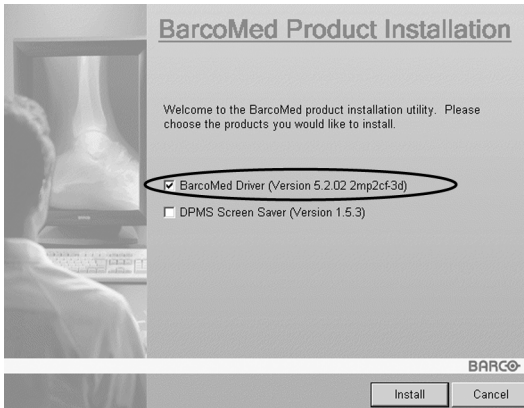

Figure 45
3. Make certain that the checkbox next to the driver is checked and that all other checkboxes are unchecked (figure 45 below). Click **"Install"** to continue.